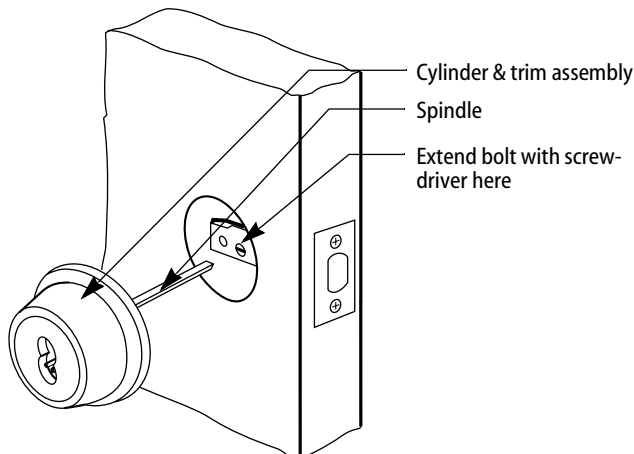

Figure 6 — Installing the cylinder
- 2 Install the cylinder and trim assembly with the spindle in the vertical position as shown in Figure 6.